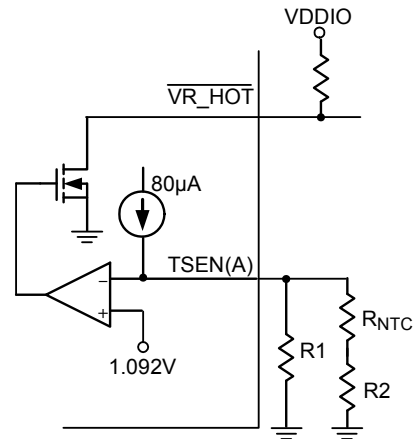

Figure 8. VR\_HOT Circuit
The VR\_HOT signal is an open-drain signal which is used for VR thermal protection. When the sensed voltage in TSEN(A) pin is less than 1.092, the VR\_HOT signal will be pulled-low to notify CPU that the thermal protection needs to work. According to Intel VR definition, VR\_HOT signal needs acting if VR power chain temperature exceeds 100°C. Placing an NTC thermistor at the hottest area in the VR power chain and its connection is shown in Figure 8, to design the voltage divider elements (R1, R2 and NTC) so that VTSEN(A) = 1.092V at 100°C. The resistance error of TSEN network is recommended to be 1% or smaller.